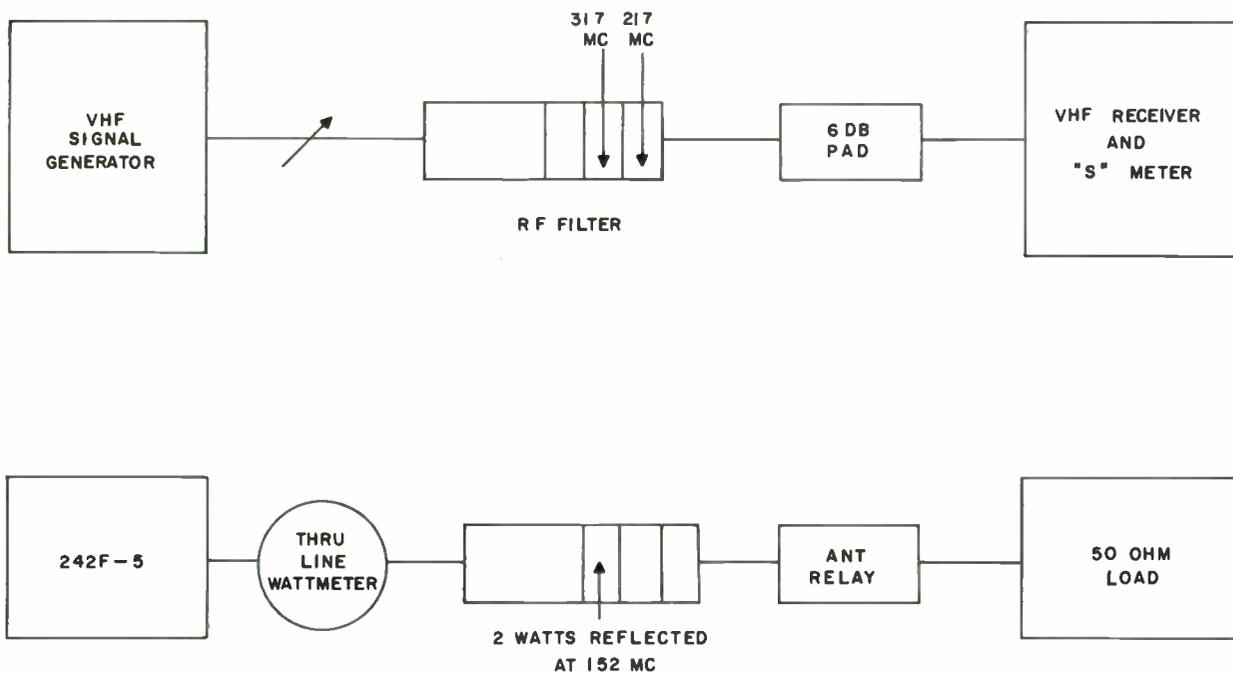

Figure 6-9. R-F Low-Pass Filter Adjustment and Tuning Test Setup
6.6.4 R-F LOW-PASS FILTER ADJUSTMENT AND TUNING. (Refer to figure 6-9.)